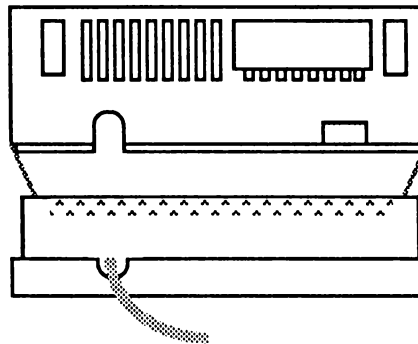

FIGURE 3
5. Pull up on the back of the case top until it clears the cable as shown in Figure 3. Slide the case top back and away from the drive.